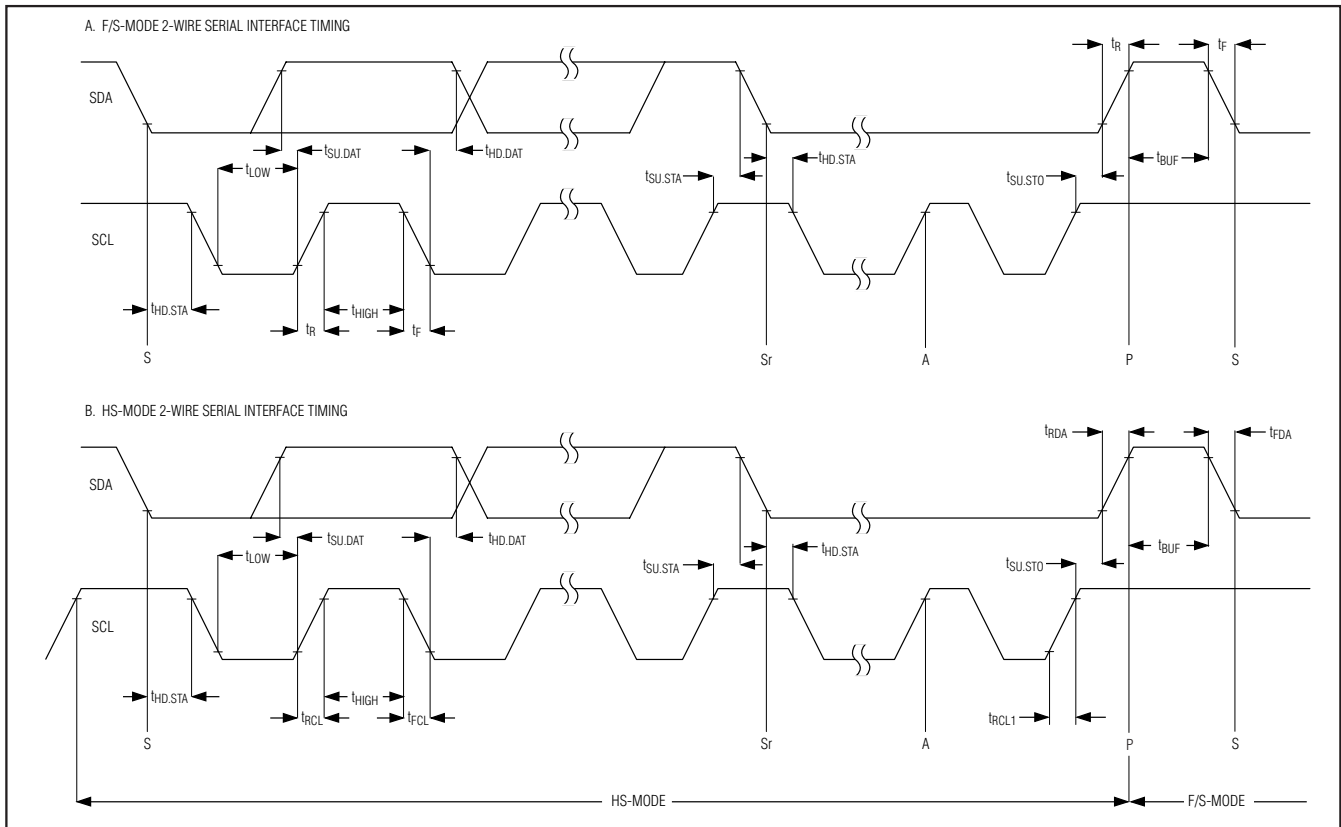

Figure 1. 2-Wire Serial Interface Timing
### TIMING CHARACTERISTICS (Figure 1)
### TIMING CHARACTERISTICS (Figure 1) (continued)
**Note 10:** A master device must provide a data hold time for SDA (referred to  $V_{IL}$  of SCL) in order to bridge the undefined region of SCL's falling edge (see Figure 1).
up to 22.2ksps. The MAX1136–MAX1139 must operate in high-speed mode (HS-mode) to achieve conversion rates up to 94.4ksps. Figure 1 shows the bus timing for the MAX1136–MAX1139’s 2-wire interface.